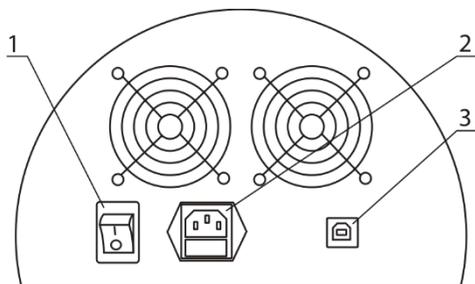

Figure 1. Rear panel of the unit
- Connect the power cable to the socket on the rear side of the unit (fig. 1/2);
- Connect the USB data cable to the port on the rear side of the unit (fig. 1/3) and to the personal computer;
7.2 Turn on the unit by pressing the power switch on the rear panel (fig. 1/1).
7.6 After finishing the operation, switch off the unit with the power switch (fig. 1/1).